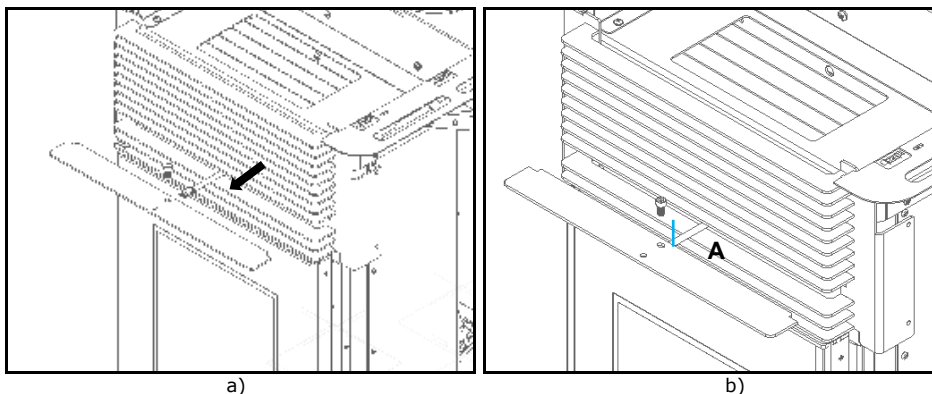

Figure 92 – Registry pad grip
b) Then, pull the registry bar forward (Figure 92-a), match the hole of the shaft and the hole of the blade and join them with a screw **A** (DIN 912 M6x10).